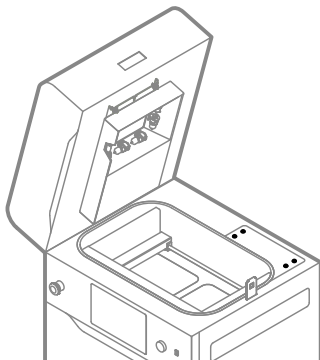

Fig. 13.66 Remove four screws from the access panel.
8. Using a 2 [mm] allen key remove the four screws securing the access panel on the top side of the printer (fig. 13.66).